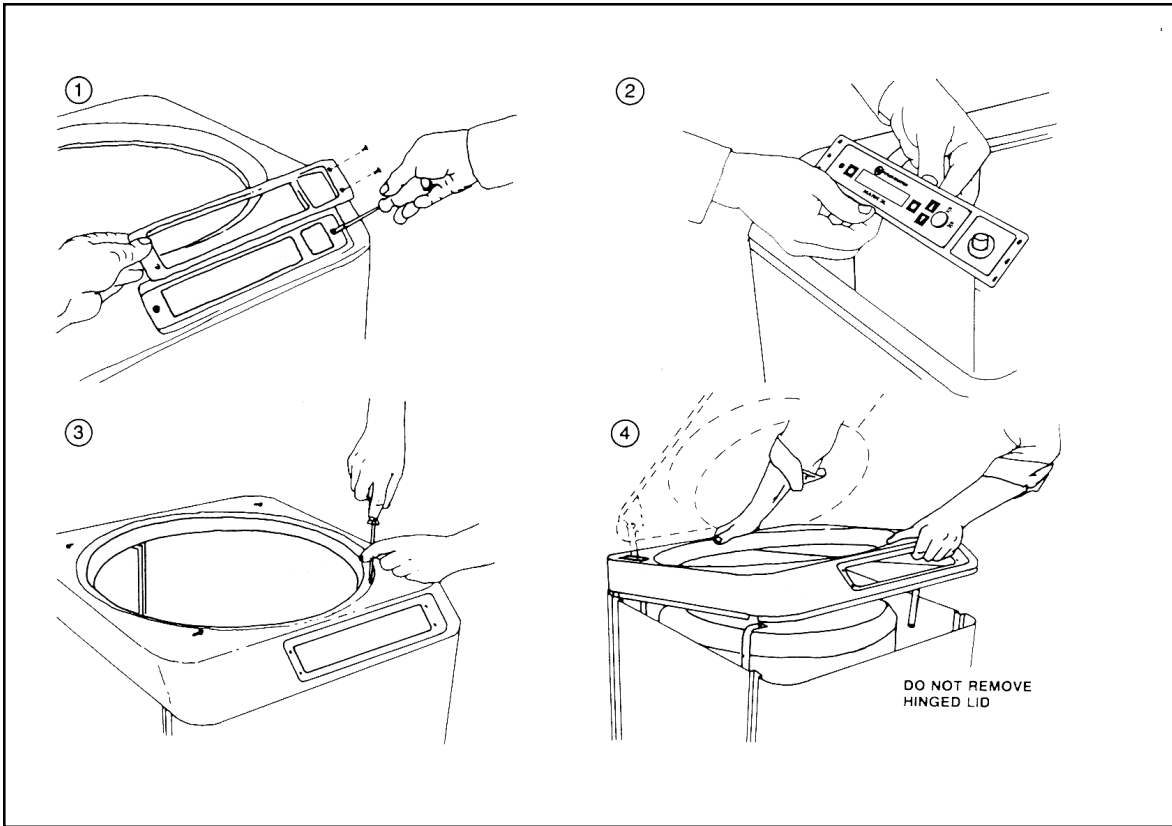

Figure 10. Removing the cabinet top of the 10K and 24K
Remove the cabinet top, follow the steps in Figure 10 to remove the four (4) screws holding the trim (escutcheon) where the controller will be mounted. Remove four (4) screws from the top of the refrigerator and lift the cabinet top to gain access to the area between the cabinet and the insulated inner vessel. The cabinet top may only be raised as shown in Figure 10 because of the lid hinges. Do not remove the hinged lid. After the cabinet top is loosened and propped up, this will allow access to the location where the electrical supply connections will be mounted.
To remove the control panel, follow the steps illustrated in Figure 10 to remove the four (4) screws holding the trim (escutcheon) around the controller mounting opening at the front of the refrigerator. Remove the two (2) screws from the controller and lift it from the refrigerator far enough to detach its electrical wiring. Remove four (4) screws from the top of the refrigerator and lift the cabinet top to gain access to the area between the cabinet and the insulated inner vessel. The cabinet top may only be raised as shown in Figure 10 because of the lid hinges. Do not remove the hinged lid. After the cabinet top is loosened and propped up, the electrical connection wiring may be detached to allow the back panel connection. At the completion of maintenance and repairs, reattach the electrical connection wiring to the controller. Install the controller using the procedure outlined for your refrigerator in **Installing the Controller** section.